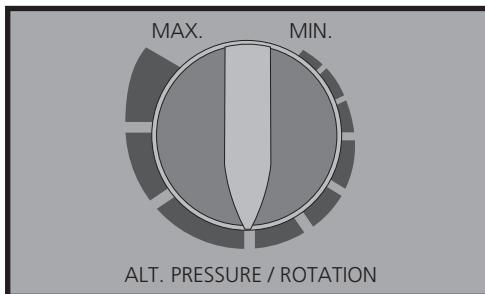

Figure 8
2. Disconnect hoses from pump to level mattress (for A and AR models), as shown at right (Figure 8).